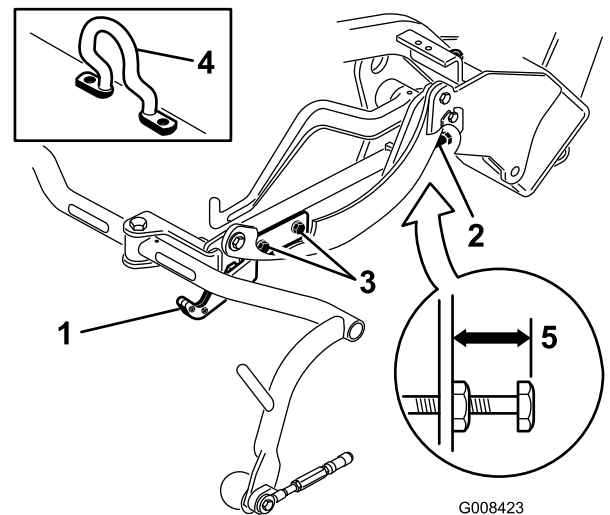
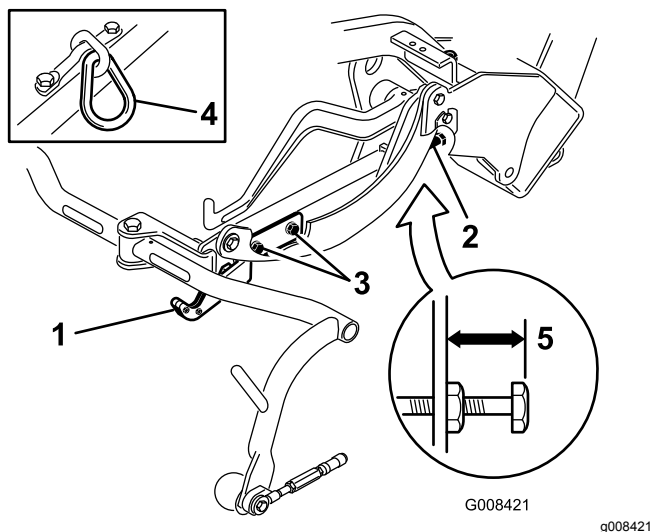
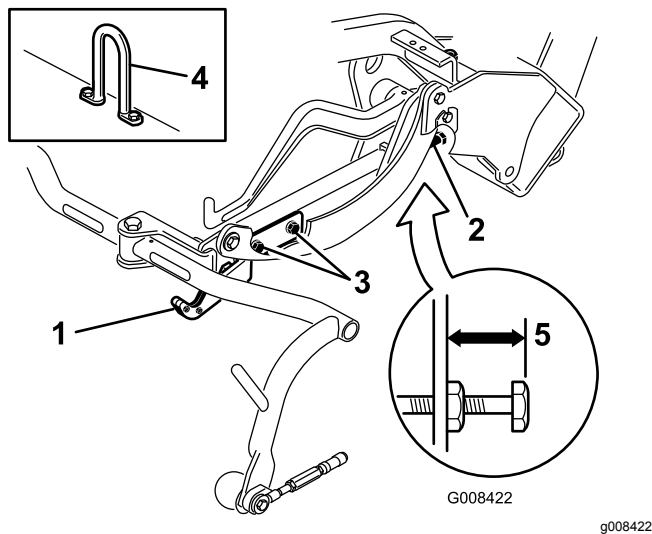

Figure 12
Figure 13
Figure 14
Check the transport height (Figure 13 and Figure 14) and adjust it if required.
2. On cutting units equipped with a offset lift hook (Figure 12 inset), verify that the distance from the top of the carrier frame adjusting screw to the back of the carrier frame is 25 mm (1 inch). If the distance is not 25 mm (1 inch), go to step 4.
3. On cutting units equipped with a chain link or a straight lift hook (Figure 13 and Figure 14 insets), verify that the distance from the top of the carrier frame adjusting screw to the back of the carrier frame is 22 mm (7/8 inch). If the distance is not 22 mm (7/8 inch), proceed to step
4. If the cutting unit is equipped with an offset lift link (Figure 12), proceed to the next step.
- Loosen the transport plate mounting screws (Figure 13, Figure 14, and Figure 12).
- If the carrier frames are not at the same height, loosen the jam nut on the carrier frame adjusting screw (Figure 12, Figure 13, and Figure 14). Rotate the screw outward to raise and inward to lower. Tighten the jam nut after you obtain the proper height.